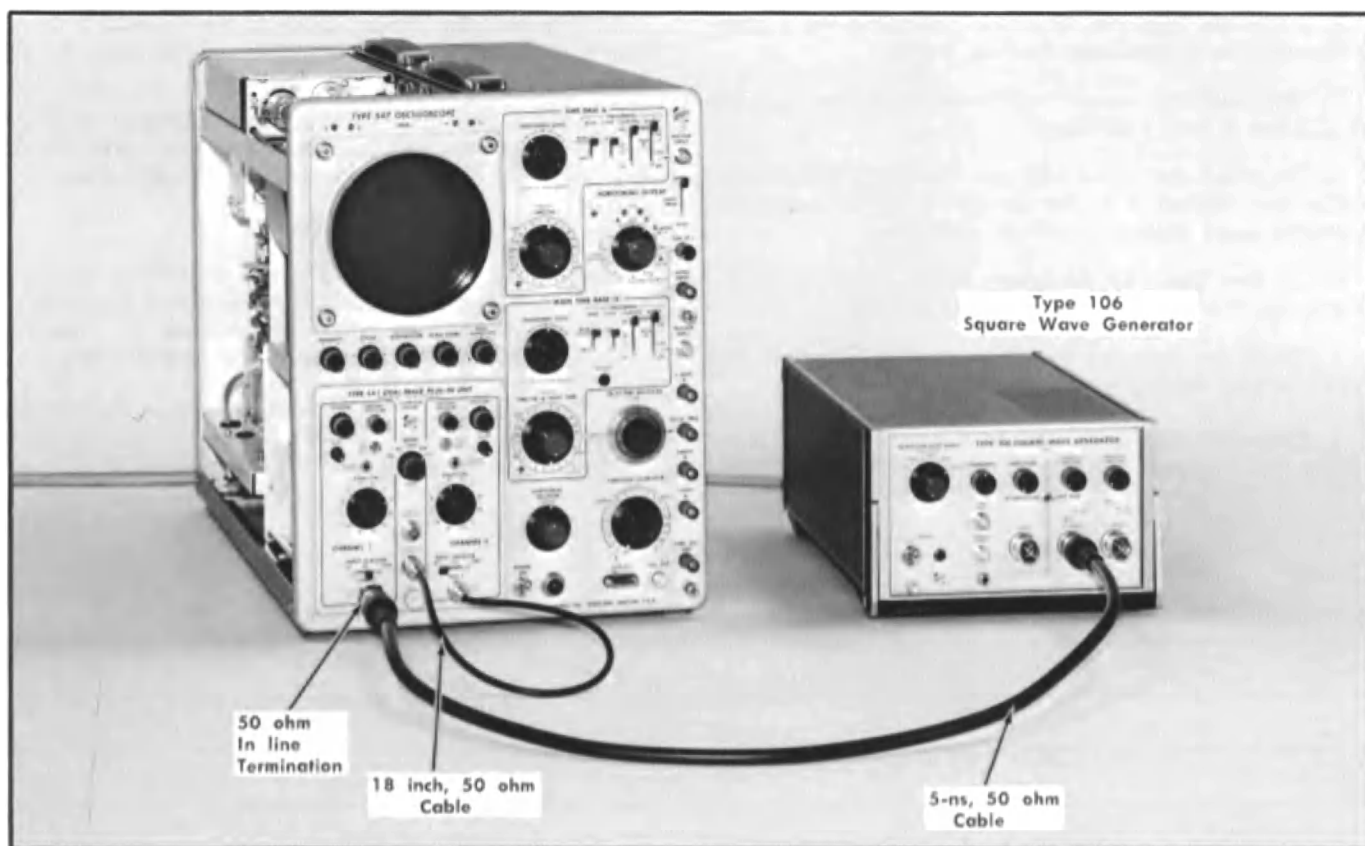

Fig. 7-36. Test equipment setup for step 26.
- a. Test equipment setup, with connections made to completion of step 26d, is shown in Fig. 7-36.
- c. Apply the 100-kHz fast-rise signal from the +Output connector on the Type 106 through a 5-ns cable and a 50-ohm in-line termination to the Type 1A1 Channel 1 INPUT connector (see Fig. 7-36).